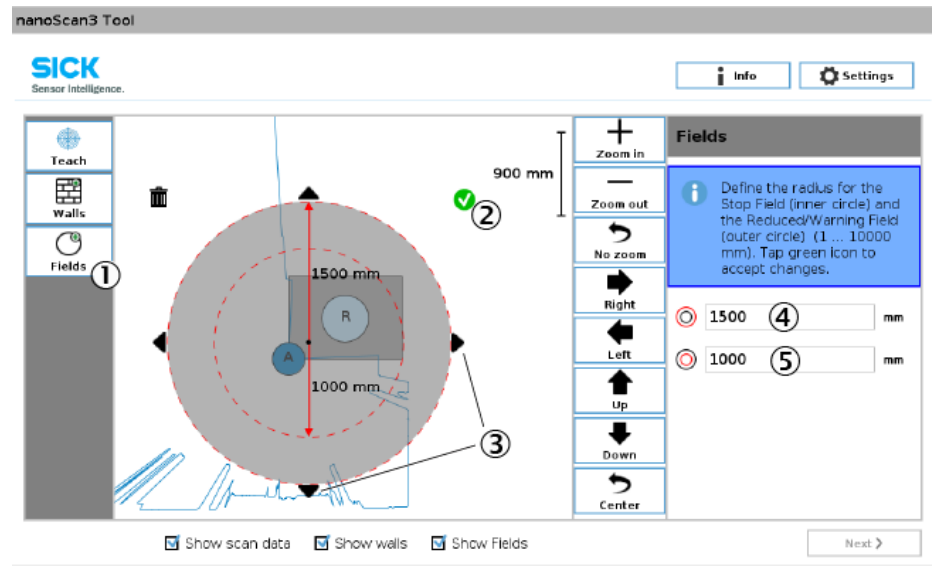

Figure 21: Drawing fields manually
3. Use the displayed tools to configure the circles as desired and confirm by ticking the check mark (see figure 21).